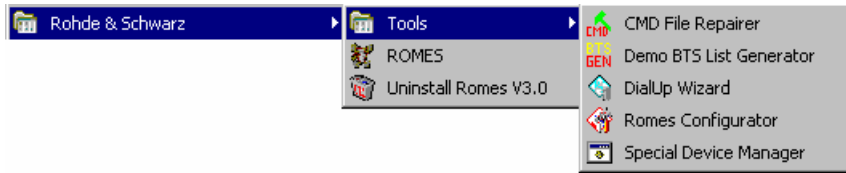

Fig. 8-1 R&S ROMES Tools
Select *CMD File Repairer* in the *Tools* program subdirectory; see Fig. 8-1 on p. 8.8.
Double-click *BTSListGenerator.EXE* (or select *Demo BTS List Generator* in the *Tools* program subdirectory; see Fig. 8-1 on p. 8.8).
2. Select *DialUp Wizard* in the *Tools* program subdirectory; see Fig. 8-1 on p. 8.8.
2. Select *ROMES Configurator* in the *Tools* program subdirectory; see Fig. 8-1 on p. 8.8.